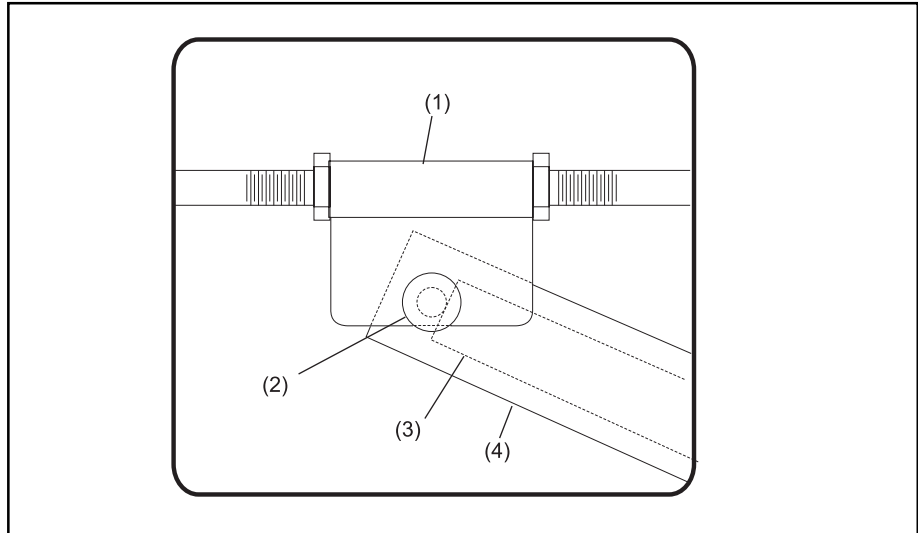

Figure 3. Check For Interference
- h. Disconnect the yoke pin from the center pivot point and the motor sleeve. Refer to *Figure 3*. Visually inspect pin for evidence of wear. If wear is present, the pin was most likely interfering with motor drive screw. Retain all pins and retainers for reinstallation.